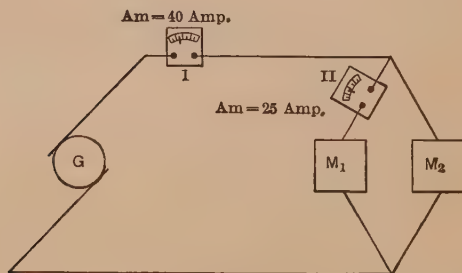

FIG. 59.
**Prob. 3.** In Fig. 59, ammeter I reads 40 amperes; ammeter II reads 25 amp. How much current does  $M_2$  take?